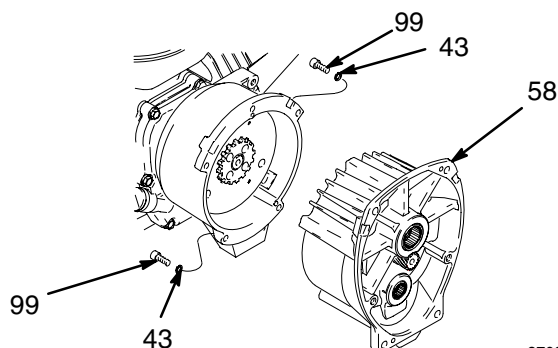
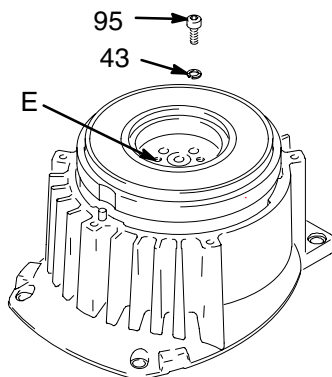

Fig. 10 8700A
Fig. 11 8701B
1. Remove drive housing (8); page 15.
3. Fig. 10. Remove five screws (99) and lockwashers (43) and pinion assembly (58).
4. Fig. 11. Place pinion assembly (58) on bench with rotor side up.
5. Remove four screws (95) and lockwashers (43). Install two screws in threaded holes (E) in rotor. Alternately tighten screws until rotor comes off.
8. Fig. 11. Place pinion assembly (58) on bench with rotor side up.
9. Apply locktite to screws. Install four screws (2) and lockwashers (43). Alternately torque screws to 125 in-lb until rotor is secure. Use threaded holes to hold rotor.
10. Fig. 10. Install pinion assembly (58) with five screws (99) and lockwashers (43).